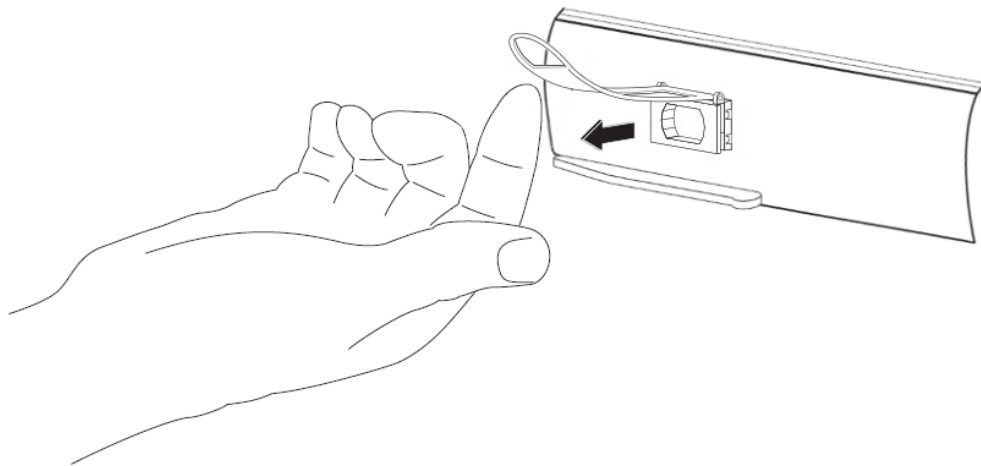

Figure 18: Pulling the pull tab latch of a QSFP+ Module
3. Hold the pull-tab latch on the QSFP+ module with your index finger, and gently pull to release the transceiver from the socket, as shown in Figure 18.